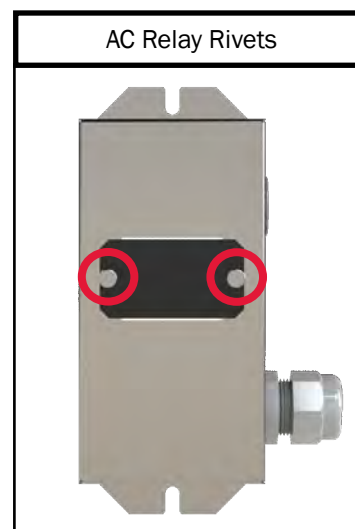

Figure 60
5. Remove the defective relay by drilling the rivets that hold the relay in place (Figure 60) and discard the defective relay.